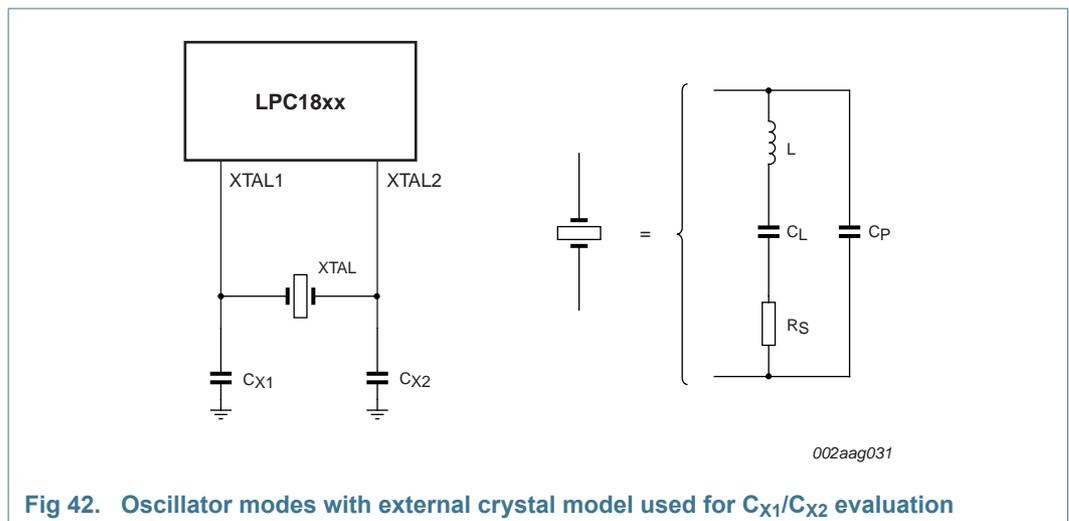

Fig 42. Oscillator modes with external crystal model used for C_{X1}/C_{X2} evaluation
- External components and models used in oscillation mode are shown in Figure 42, and in Table 38 and Table 39. Since the feedback resistance is integrated on chip, only a crystal and the capacitances C_{X1} and C_{X2} need to be connected externally in case of fundamental mode oscillation (L, CL and RS represent the fundamental frequency). Capacitance C_P in Figure 42 represents the parallel package capacitance and must not be larger than 7 pF. Parameters FC, CL, RS and CP are supplied by the crystal manufacturer.